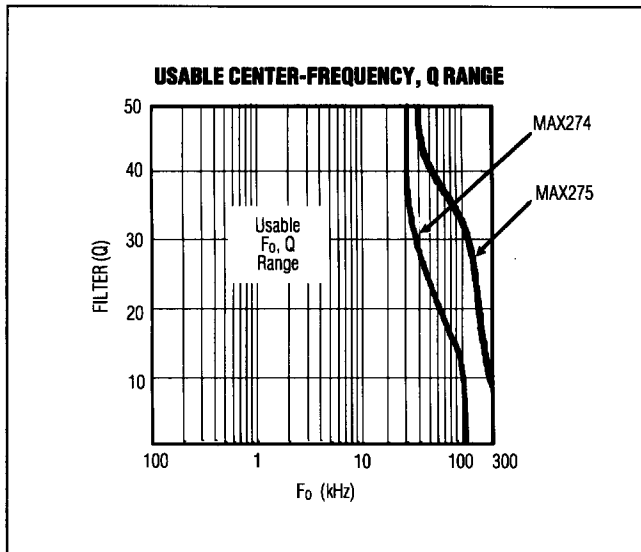

Figure 4. Usable F_o , Q Range. See *Translating F_o/Q Pairs into Hardware (Resistor Selection)*.
1. Check all F_o/Q pairs for realizability. The MAX274/MAX275 have limits on which F_o/Q values can be implemented. These limits are bound by finite amplifier gain-bandwidth and amplifier load drive capability (which limit the highest frequency F_o /highest Qs) as well as amplifier noise pickup and susceptibility to errors caused by stray capacitance (which sets a low-frequency limit on the poles). Refer to Figure 4 to be sure each F_o/Q pair is within the "realizable" portion of the graph. If filter Qs are too high, reduce them by increasing the filter order (that is, increase the number of poles in the overall filter).
High-frequency F_o s (up to 400kHz) and high Qs outside of Figure 4's limits are also realizable, but F_o and Q will deviate significantly from the ideal. Adjust resistor values by prototyping.